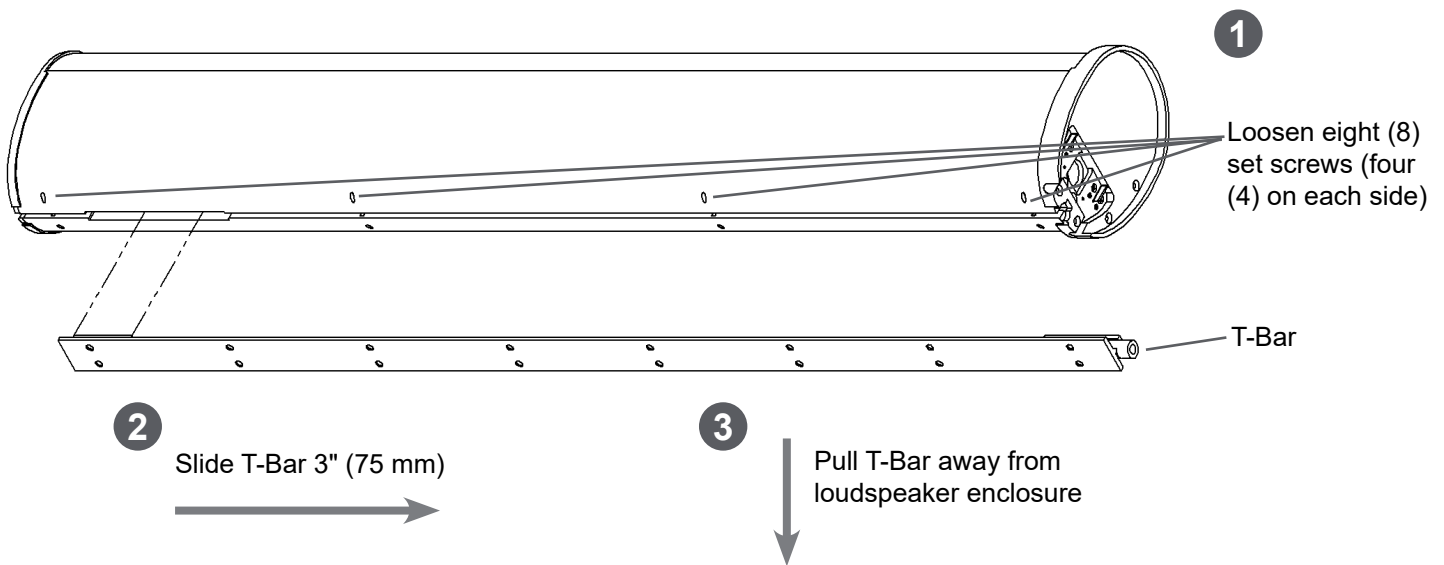

Figure 2. T-Bar bracket removal
1. The T-Bar or "T" Mounting Bracket, is attached to each ENT-FR/LF column loudspeaker. Remove the T-Bar Bracket(s) from each column by either laying the loudspeaker on its side or placing it upside down on a level surface. There are eight set screws, four on each side of the rear of the enclosure, that secure this bracket. Loosen the set screws and slide the mounting bracket down parallel to the enclosure until it can be pulled out of the slot (Figure 2).